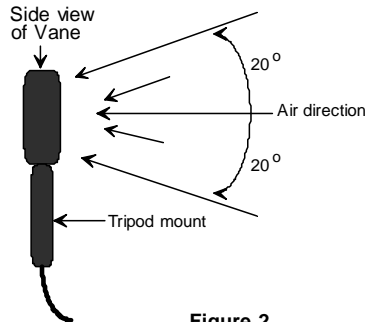

Figure 2
**NOTE:** For all air velocity or flow measurements, the air should pass through the vane from back to front. The rear of the vane can be found by locating the mounting nut. The front of the vane has the engraving "ANEMOMETER". For more accurate results, maintain a 20° axis of air direction with the rear of the vane (refer to Fig.2).
4. Place the vane in the air flow with the air direction matching the direction of the arrows printed on the inner walls of the vane. If the unit does not have the printed arrows, have the tripod mount side of the vane facing the air flow (see Fig.2).
5. Place the vane in the air flow (Fig.2).